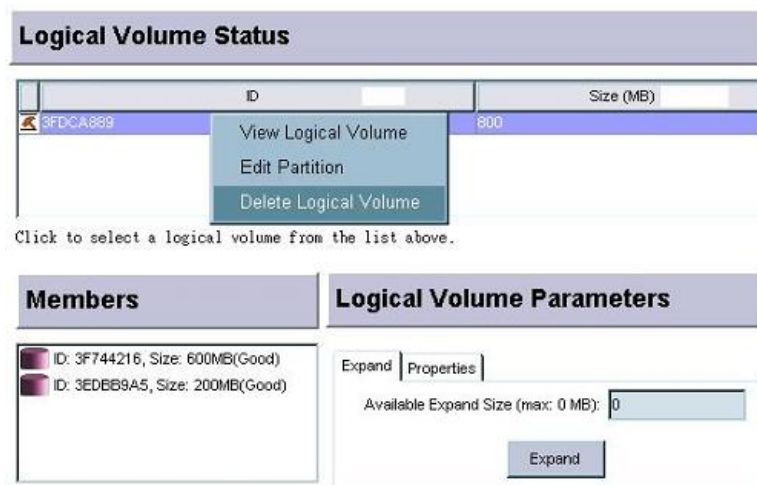

Figure 9-18: Displaying Logical Volume Edit Mode Menu
Step 1. Select the configured volume you wish to remove with a single mouse-click. **Right-click** the adjacent area to display a command menu. As shown in **Figure 9-18**, all the LVs that have been created will appear below the **Logical Volume Status** panel.